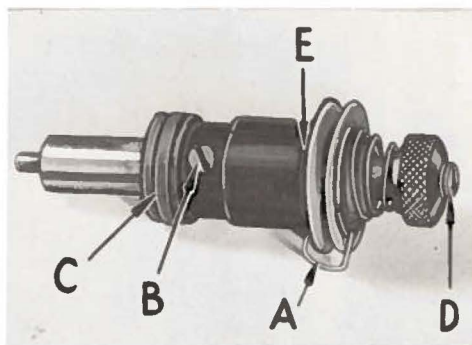
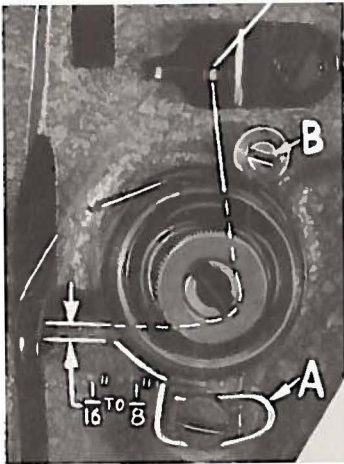

Fig. 18
Fig. 19
Test check spring tension (A, Fig. 18). There should be enough tension to assure a good returning snap when spring is depressed and released. Should it require adjusting, loosen set screw in the head located under arm and to the right of tension assembly, and remove tension assembly. Partially loosen tension post set screw (B) in tension post socket (C). Turn the tension post (D) counterclockwise until the check spring moves away from the upper stop (E) and has no tension on it. Turn the tension post (D) in a clockwise direction until the spring again touches the upper stop (E). Then, proceed further in the same direction until the desired tension is obtained. When correctly set,
The in and out position of the tension assembly is correct when the tension discs are in line with the check spring eyelet (A, Fig. 19). Set the stop screw (B, Fig. 19) so that when the flange of the tension assembly rests against it, this position is maintained. Tighten the tension assembly set screw.
insure a good returning snap when spring (B, Fig. 20) is depressed and released. The check spring tension is adjusted from about 1 to 1 $\frac{1}{4}$ ounces when measured with a postal scale (C, Fig. 20). This is measured when the check spring is $\frac{1}{32}$ to $\frac{1}{16}$ inch from its stop. The tension post set screw should be drawn up snugly but not forcefully tightened (B, Fig. 18). The tension release pin should move freely in the tension post (D, Fig. 18). The check spring eyelet (A, Fig. 19), located just below the tension discs, should be set for correct height as follows:
With a thread running from the tension post to the thread wire in a straight line, the check spring eyelet should be set $\frac{1}{16}$ to $\frac{1}{8}$ inch below the thread line (Fig. 19). Be sure the eyelet is set close to the tension discs so that the check spring will pass freely over it without obstruction. After making this setting, proceed to thread machine as per threading diagram (Fig. 2).